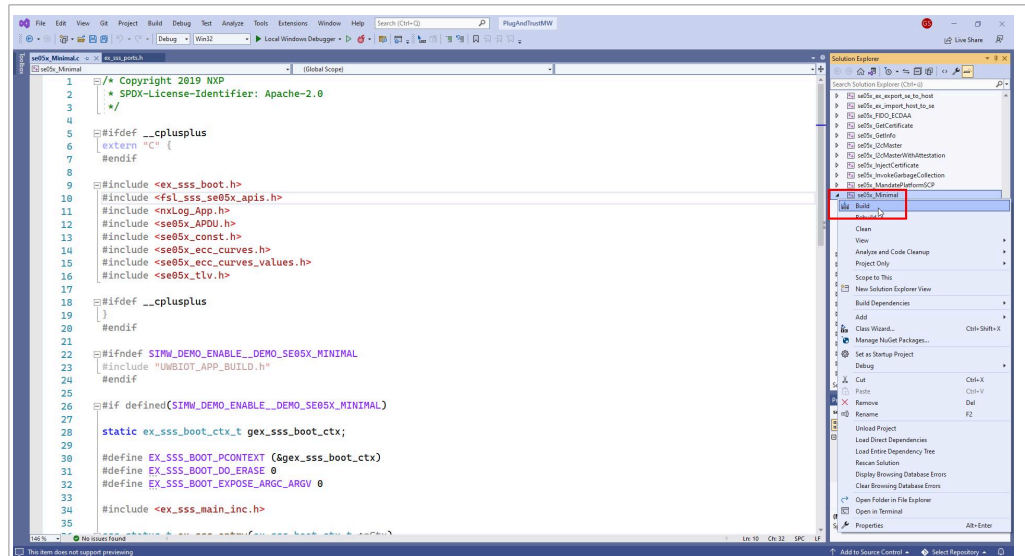

Figure 21. Build se05x_minimal project
- 7. Right click on the se05x_minimal project and build it by clicking the build option as shown in Figure 21.